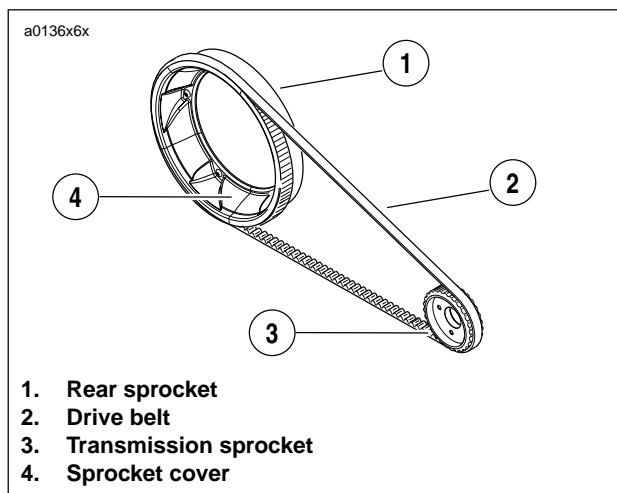

Figure 1-18. Drive Belt Assembly
1. See Figure 1-18. Inspect each tooth of rear sprocket for: